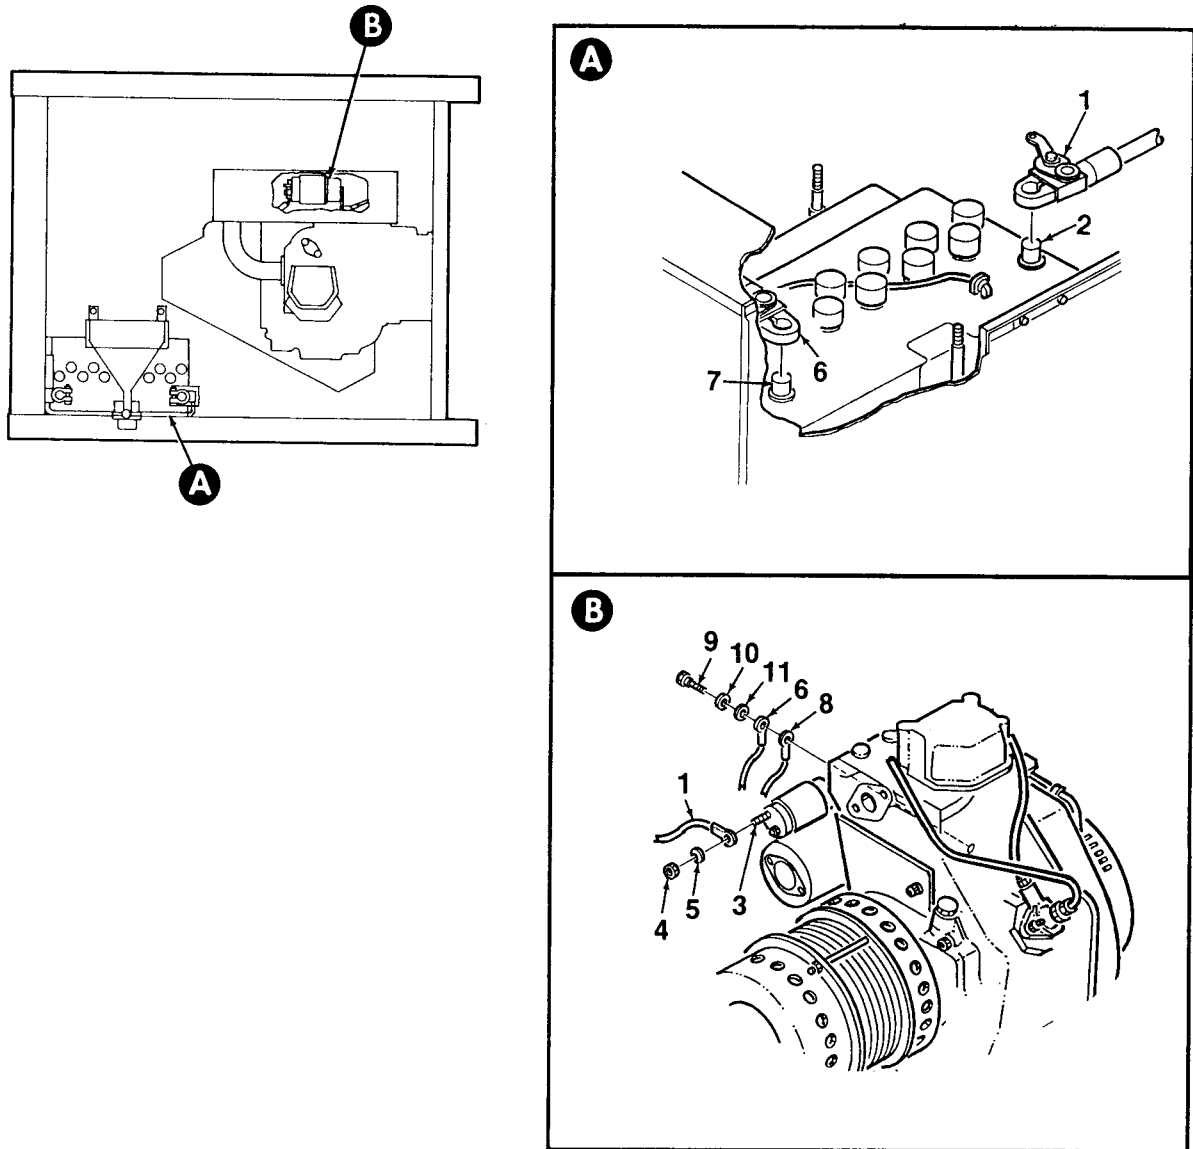

Figure 4-36. Battery Cables
2. Disconnect positive battery cable (1, Figure 4-36) from positive (+) battery post (2). Disconnect opposite end of cable from starter's positive terminal (3) by removing nut (4) and washer (5).
3. Disconnect negative battery cable (6) from negative (-) battery post (7). Disconnect opposite end of cable from engine ground lug by removing screw (9), lockwasher (10), and washer (11). Leave electrical cable (8) in place on ground lug.